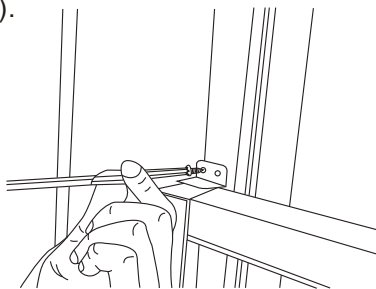

Fig.9
C.To secure lower sash in place, attach right angle sash lock with 3/4" (19mm) or 1/2" (12.7mm) screw as shown(Fig.9).